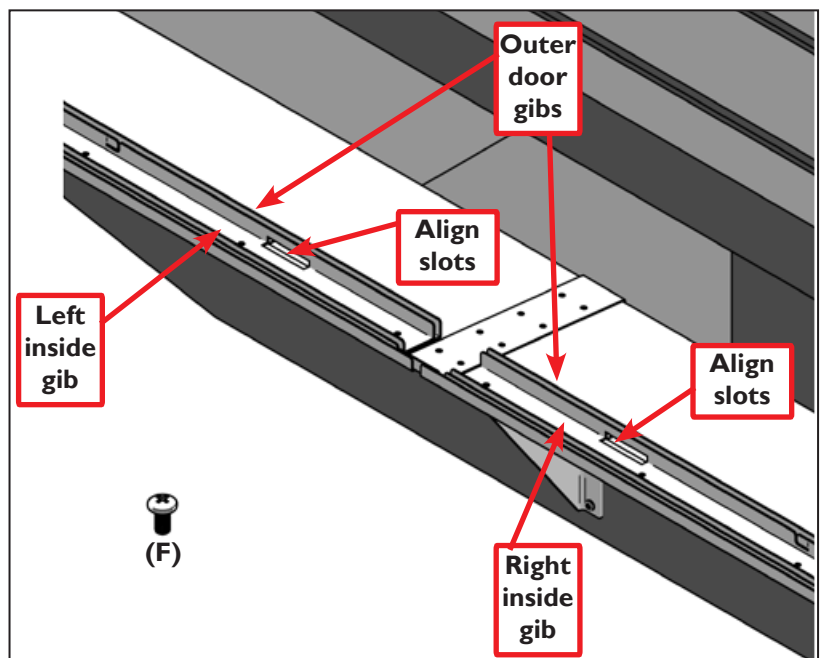

Figure 20
53. Stack the left inside door gib (E.30) onto the outside door gib (E.32), aligning the rectangular slots (see **Figure 20**). Loosely fasten with (F) screws along the center of the gibs.
54. Stack the right inside door gib (E.31) onto the second outside door gib (E.32), aligning the rectangular holes (see **Figure 20**). Loosely fasten with (F) screws along the center of gibs.